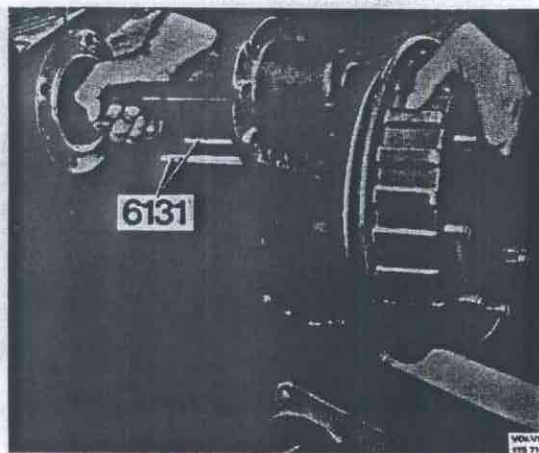

Fig. 46-33. Removing the wheel carrier
5. Place a jack under the wheel carrier housing, see Fig. 46-33. Remove the bolts securing the wheel carrier housing to the rear axle casing. Allow two bolts to remain. Tap carefully on the bolts so that the housing loosens from the casing.
4. Remove the tool holding the flange. Fit two guide pins 6131 in the lower holes of the wheel carrier housing, Fig. 46-33. Place the housing on a jack. Lift up the carrier so that the guide pins can enter the rear axle casing. Rotate the differential carrier flange while pushing in the carrier at the same time.